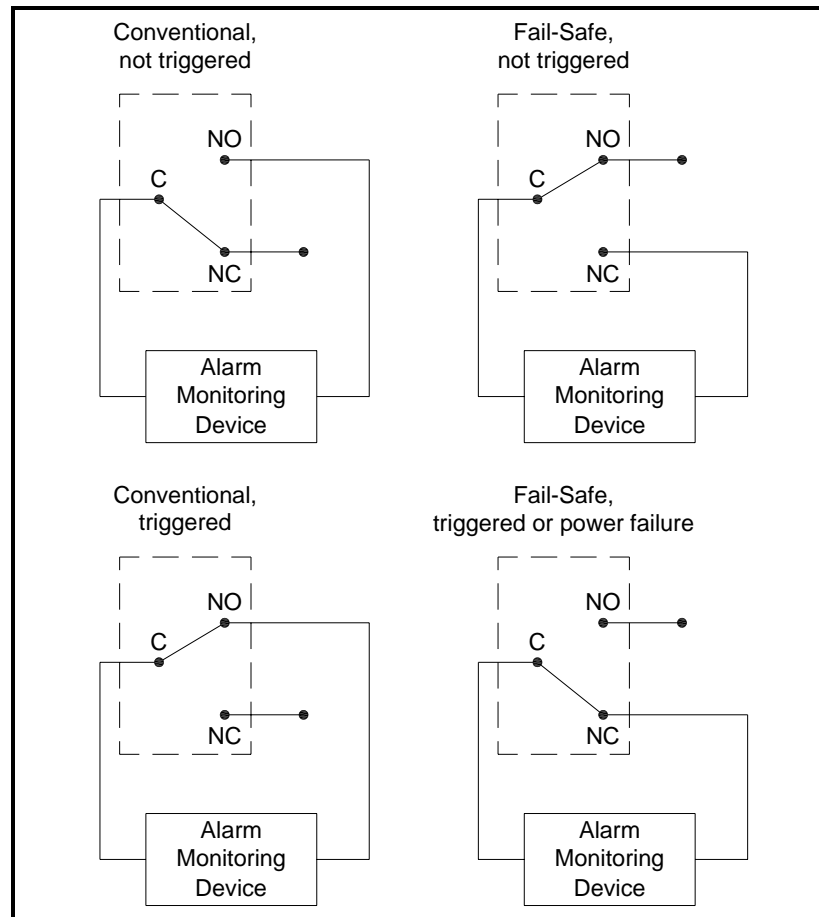

Figure 1-6: Conventional and Fail-Safe Alarm Operation
The alarm relays can be wired as either *Normally Open* (NO) or *Normally Closed* (NC), and they may be wired for either *conventional* or *fail-safe* operation. *Figure 1-6* below shows the operation of a NO alarm relay in both conventional and fail-safe mode.